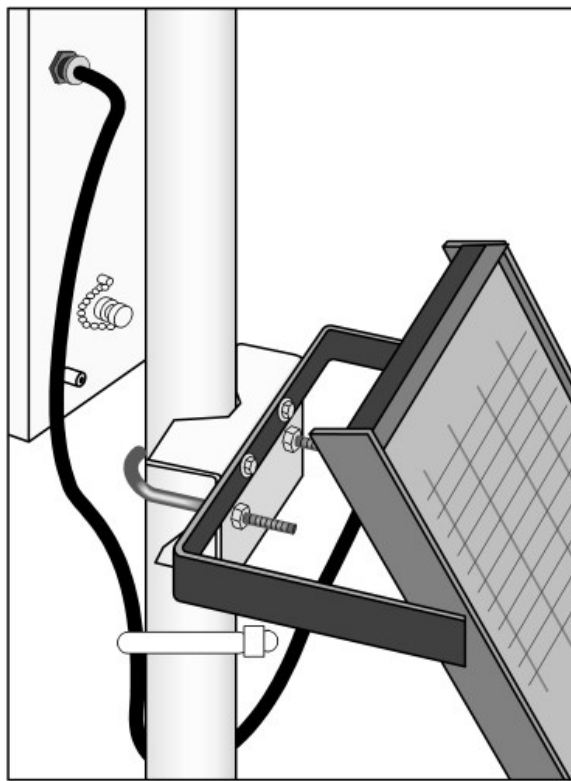

FIGURE 6-40. Solar panel mounting and cabling
1. Mount the solar panel to the pole using the mounting brackets (FIGURE 6-40 (p. 53)).